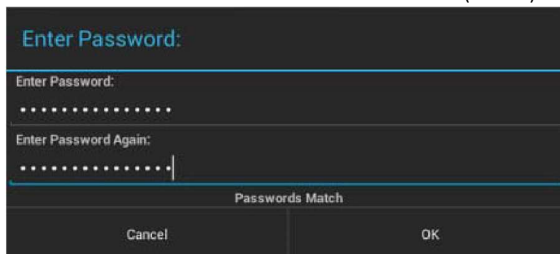

FIG. 98 Enter Password window
4. Press **OK** to invoke the Enter Password window (FIG. 98): .